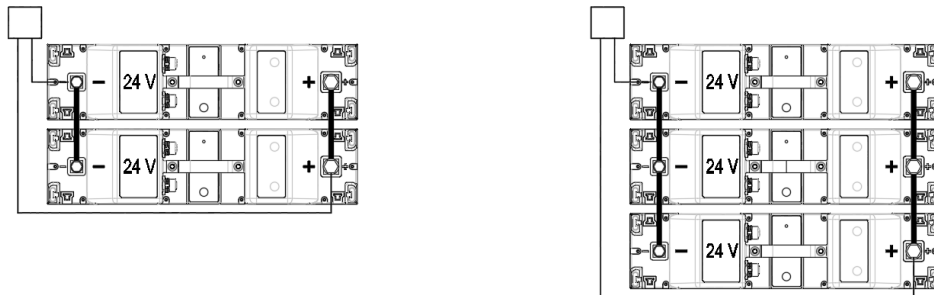

Figure 2
- connected according to the diagram shown in Fig. 2